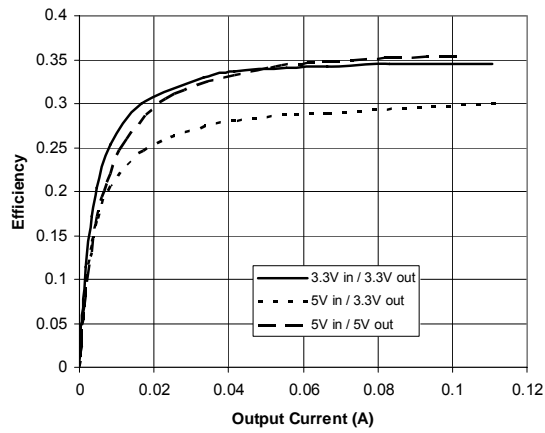

Figure 6. Typical Power Supply Efficiency at 5V/5V, 3.3V/3.3V and 5V/3.3V
- E is the power supply efficiency at 100mA load from Figure 6 at the V_{ISO} and V_{DD1} condition of interest.